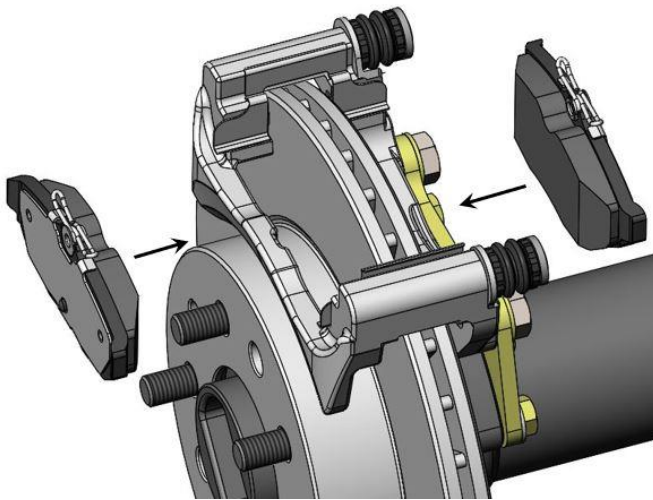
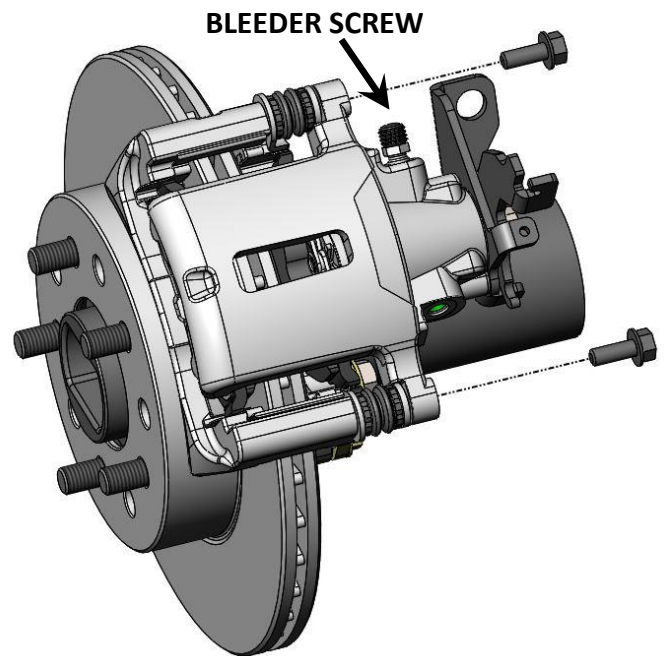

Figure 8a – Brake Pad Installation
Figure 8b - Caliper Installation and Bleeder Screw Orientation
11. With the Abutment Clips installed, Install the pads into the Caliper Anchor Bracket. Refer to Figure 8a below for reference. Once the pads are installed slide the caliper body over the brake pads and Caliper Anchor Bracket. With the caliper in place, re-install the caliper mounting bolts between the caliper and the bracket. Torque the bolts to 30 lb/ft. **IMPORTANT:** Make sure that the bleeder screw is pointing upward. See Figure 8b below for reference on installing the caliper.